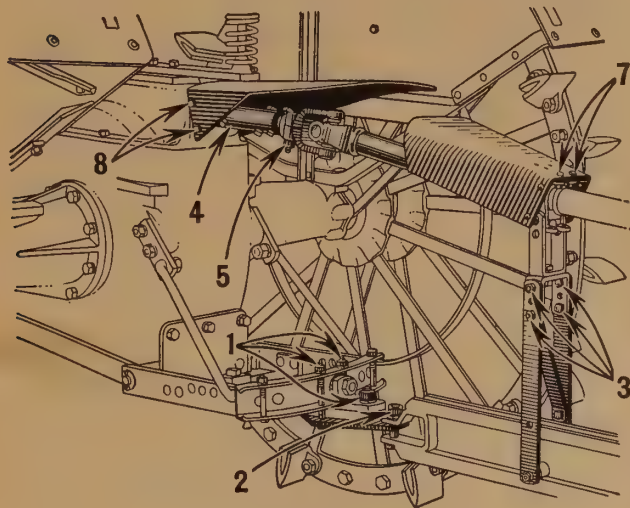

Fig. 42
4. (Figs. 42 and 43.) Slide take-off shaft extension onto tractor take-off shaft. Secure with clamp bolt.
5. (Fig. 42.) Slide front splined universal joint onto take-off shaft on tractor and secure in place with clamp bolt.
7. (Fig. 42.) Bolt power shaft shield to rear set of holes in power shaft front bearing housing.
8. (Fig. 42.) Bolt universal joint and pipe connection front shield to tractor.
1. Oliver "Row-Crop"—4-Cylinder (Fig. 42.) Bolt drawbar plate to underside of swinging drawbar. Clamp to center of swinging drawbar guide.
2. (Figs. 42 and 43.) Connect Binder to tractor drawbar.
3. (Fig. 42.) Replace standard for power shaft front bearing with new higher standard furnished. **Note:** An extension is also supplied for raising shield over power line pipe. Adjust bearing standard and shield bracket extension so that power line is as straight as possible throughout.